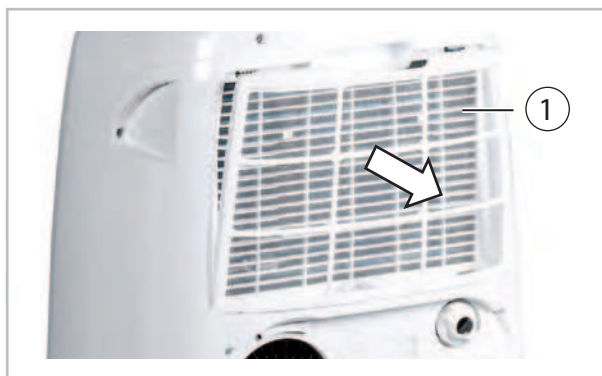

Fig. 13: Filter removal
2. ➤ Pull the filter out of the unit (Fig. 13).